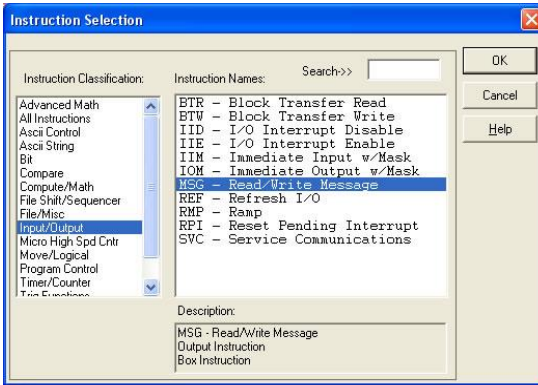

Figure 62: MSG Instruction Selection
- d) Select the “MSG” instruction from the “Input/Output” classification, then click OK. Refer to Figure 62.